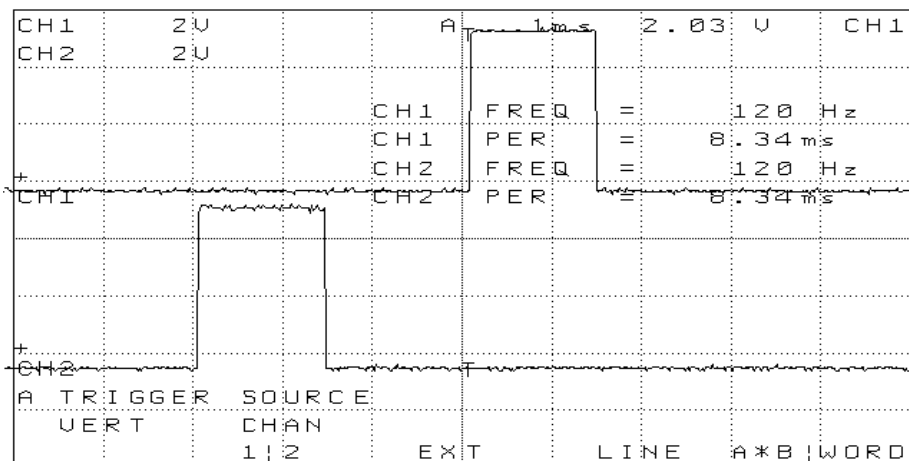
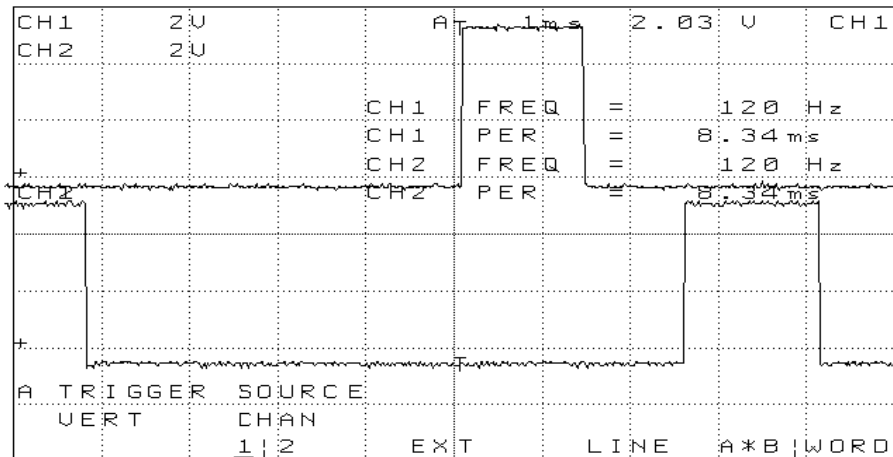

Figure 2.
Figure 3.
- 9) With 3 phase still connected apply power and observe TP1 with channel 1 and TP2 with channel 2 of oscilloscope and observe the waveforms in FIGURE 2. The waveform present on TP1 will also be on TP4 and the waveform on TP2 will also be on TP5. Now move Channel 2 from TP2 and place on TP3, observe the waveforms of FIGURE 3. The waveform present on TP3 will also be present on TP6.